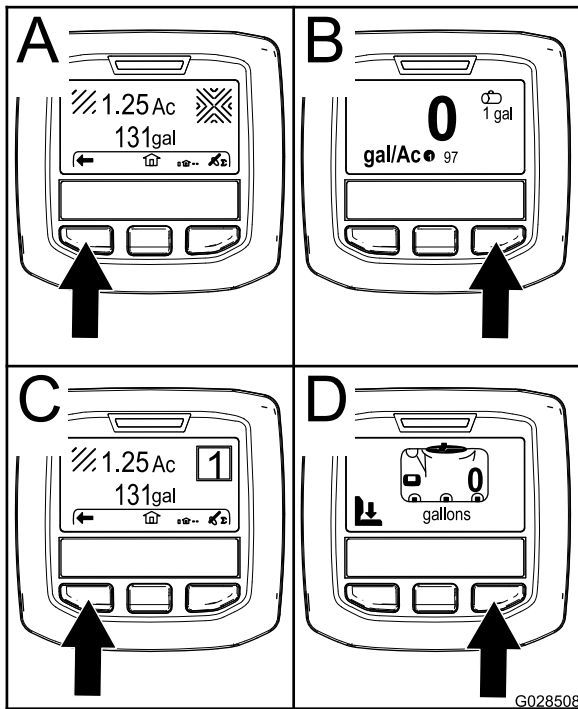

Figure 27
- Right selection button: **Total area sprayed** (A of Figure 27)
- Right selection button: **Application rate** (B of Figure 27)
- Left selection button: **Sub-area sprayed** (C of Figure 27)
- Left selection button: **Tank volume** (D of Figure 27)